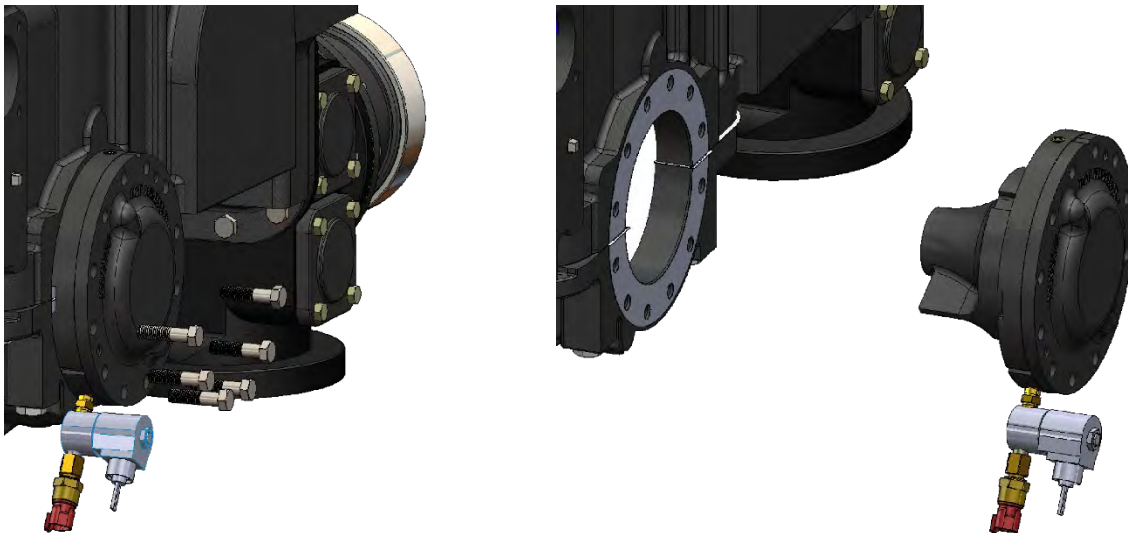

Figure 60. Autolube And Zero Pressure Solenoid Removal
- E. Perform removal portion of Autolube assembly R&R. See Figure 60 and reference Midship Pump Technical Manual (FSG-MNL-00200).